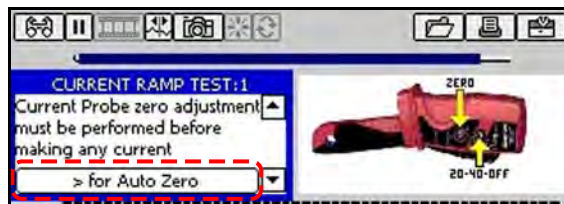

Figure 4-10 Sample jump bar
When optional details or additional tests are available for the selected component test, a jump bar displays at the bottom of the Test Procedure window (Figure 4-10).
1. Press the right ► arrow (Figure 4-10).